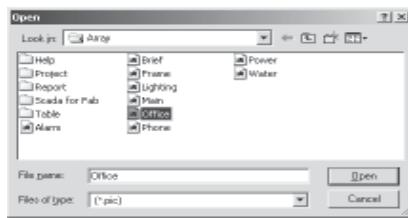

Fig. 4-39 Select the Picture Files
(1) Name: Select the **Name files** and click the **rectangle zone** on the right of Picture, and the file open dialogue block, as in Fig. 4-39, will be seen. Select the **directory path** (the same directory as the FAB-Scada). If the Office.pic file exists, select the **picture file** and then the diagram corresponding to the Hot Area household Monitor is set as the picture Office.pic
(2) Explain: the explanation of the picture files. Input a paragraph of **abstract explanation** in the editing diagram on the left of Explain, and the words will be displayed in the picture diagram. If there is no input, the diagram will display the background contents in the transparent manner, thus to realise the hot area definition of the background. For example, all the hot areas on the main diagram are produced on the same background diagram.